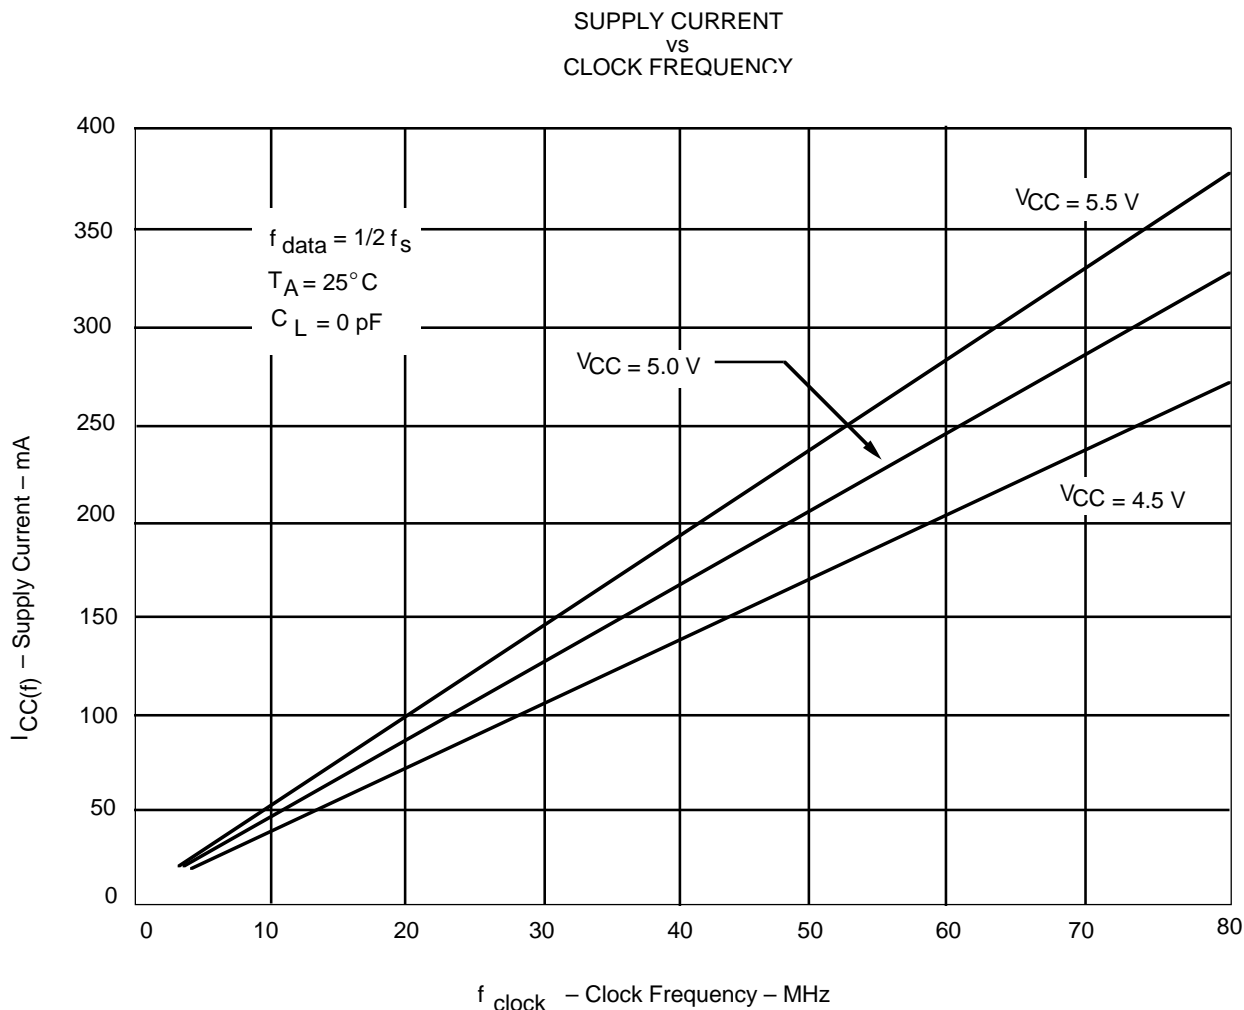

Figure 14.
With $I_{CC}(f)$ taken from Figure 14, the maximum power dissipation (PT) of the IDT723611 may be calculated by: